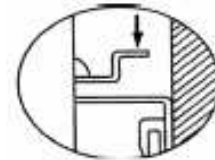

Fig. 1
1. Remove wall mounting bracket from back of heater by de pressing the two spring latches at the top of the heater (see Fig.1)